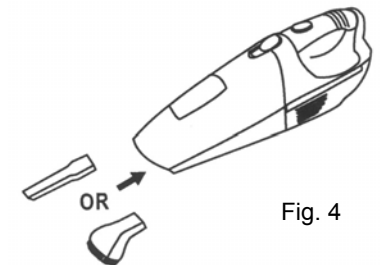

Fig. 4
3. To attach the crevice tool or the dusting brush to the hand vacuum, push the attachment into the suction hole in the front of the dust container. (Fig. 4)